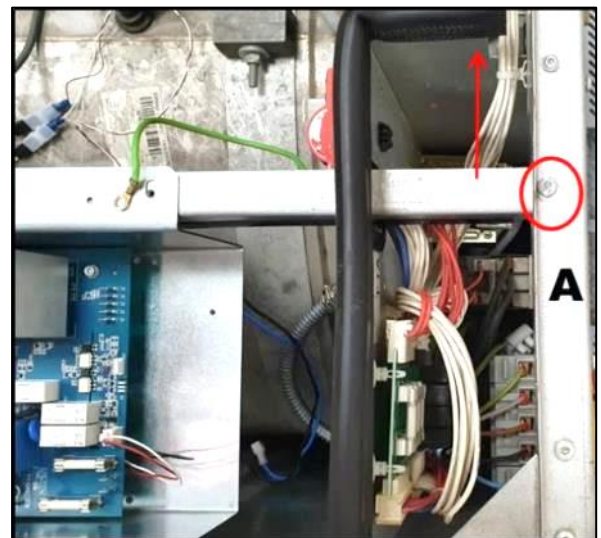

Fig.2.6
12. Loosen the screw **A** (Fig. 2.6) from the machine's crossbar and slide the crossbar upwards, as shown by the arrow.
13. Install the enclosure with the new inverter and retighten screw **A** (Fig. 2.6). Tighten the bar with the enclosure upper screws (Fig. 2.2/A and C).